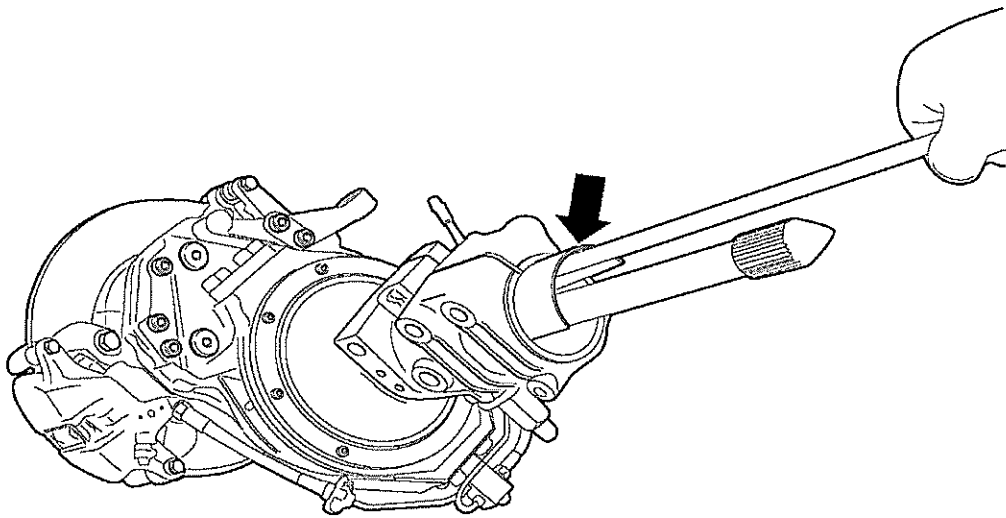

Fig 10 Cleaning portal hub inner bore
9.1 Insert clean rag deep into portal hub axle tube to prevent ingress of dirt and cover chrome surface of swivel housing. Remove Loctite residues from bore (or de-preserve replacement assembly). Remove rag and degrease cleaned surface (see Fig 10 and 11).